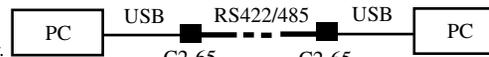

Fig.4:point to point connection
2) For point to point connection over Rs485 line up to 2 Mbi/sec over 1500 m. distance for RS422 full duplex operation.( Fig 4 )